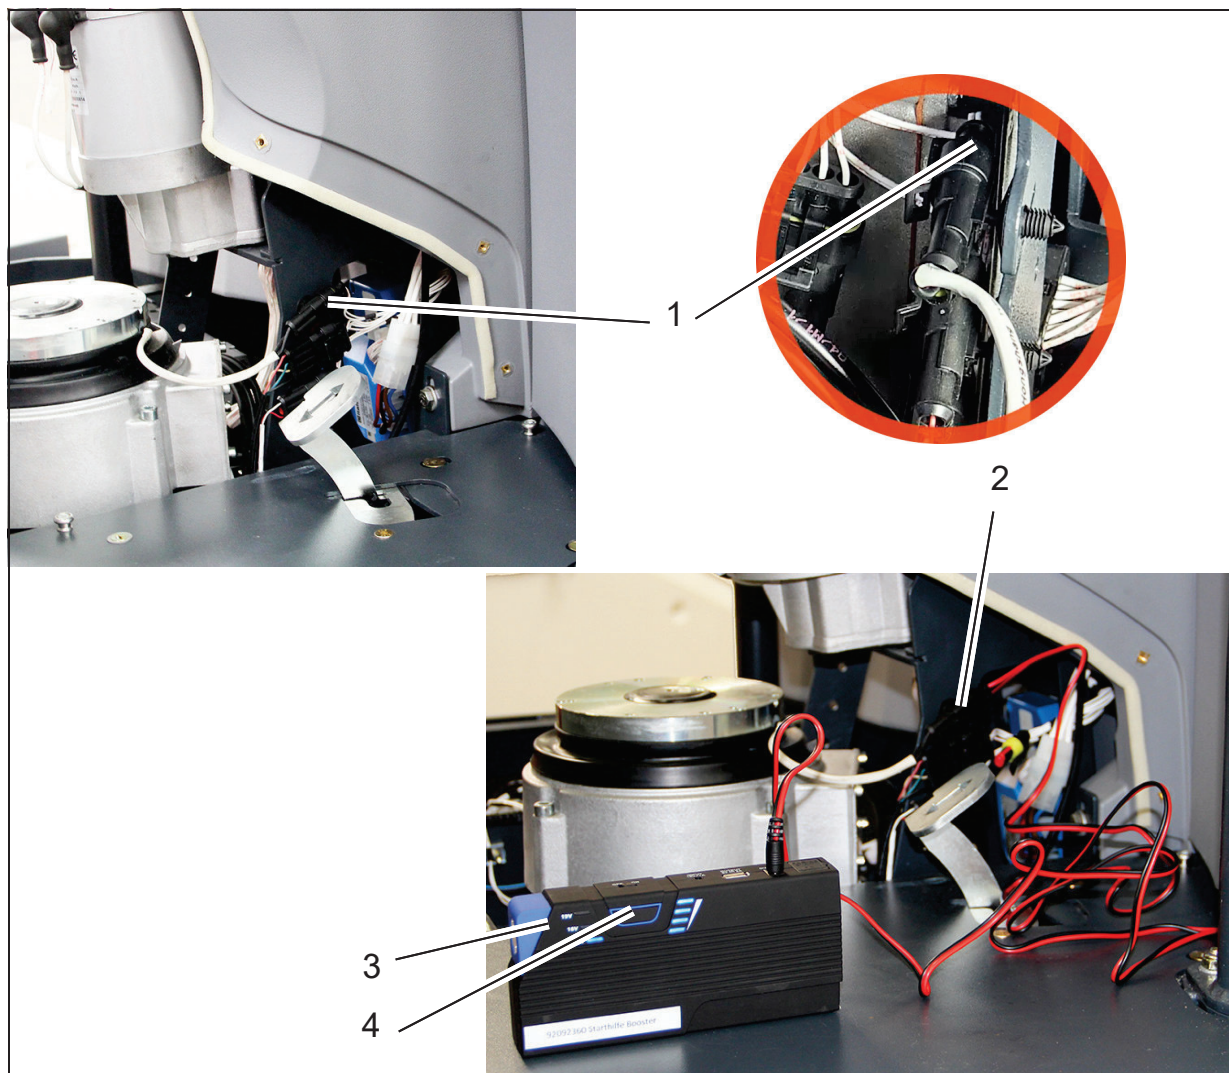

Fig. 2
3. Disconnect the top 2-pin plug connection of the travel drive (Fig. 2/1).
4. Connect the adapter cable to the power bank and the plug connection of the travel drive (Fig. 2/2).
5. Switch on the power bank (Fig. 2/3) and set it to 19 V. To do so, press the push button until the 19 V range is selected.